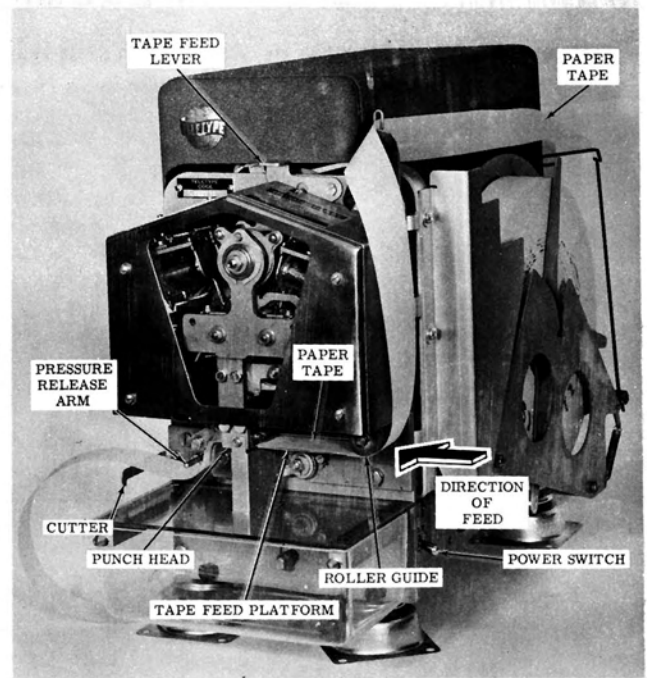

Figure XI-15. Front View of Punch Mechanism
4. Check to make sure that the power switch (Figure XI-15) on the lower front corner of the right side of the paper tape punch is in the ON (up) position. (It should always be left on.)
- g. Thread the tape through the tape guides as illustrated in Figures XI-15 and 16.
- i. Push the tape under the punch head from right to left while pressing it flat against the tape feed platform. (Figure XI-15.)
- m. Depress the tape feed lever (Figure XI-15) while gently pulling the tape until the punch takes hold. (Remember to turn the MANUAL POWER ON switch to the down position if it was used.)